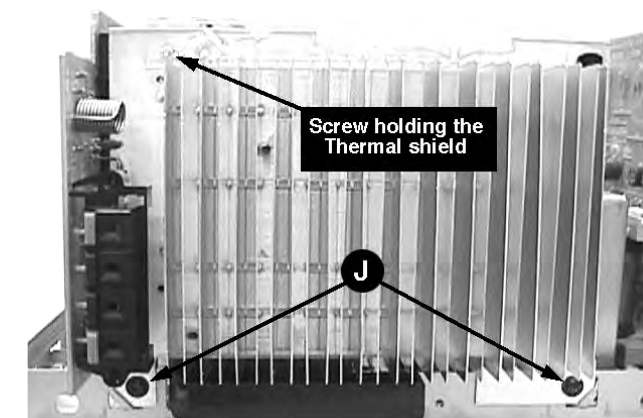

Figure 11
- 1) Loosen 2 screws J and lift-up the Power Board / Heatsink assembly from the Bottom plate (pos 265) as shown in figure 11.